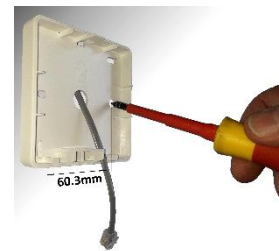

Fig. 8
- Step 2** Feed one end of the RJ control cable through the switch box, feed and secure the RJ control cable through the back case and secure back case to switch box using 2 mounting screws (not supplied) (see Fig 8).